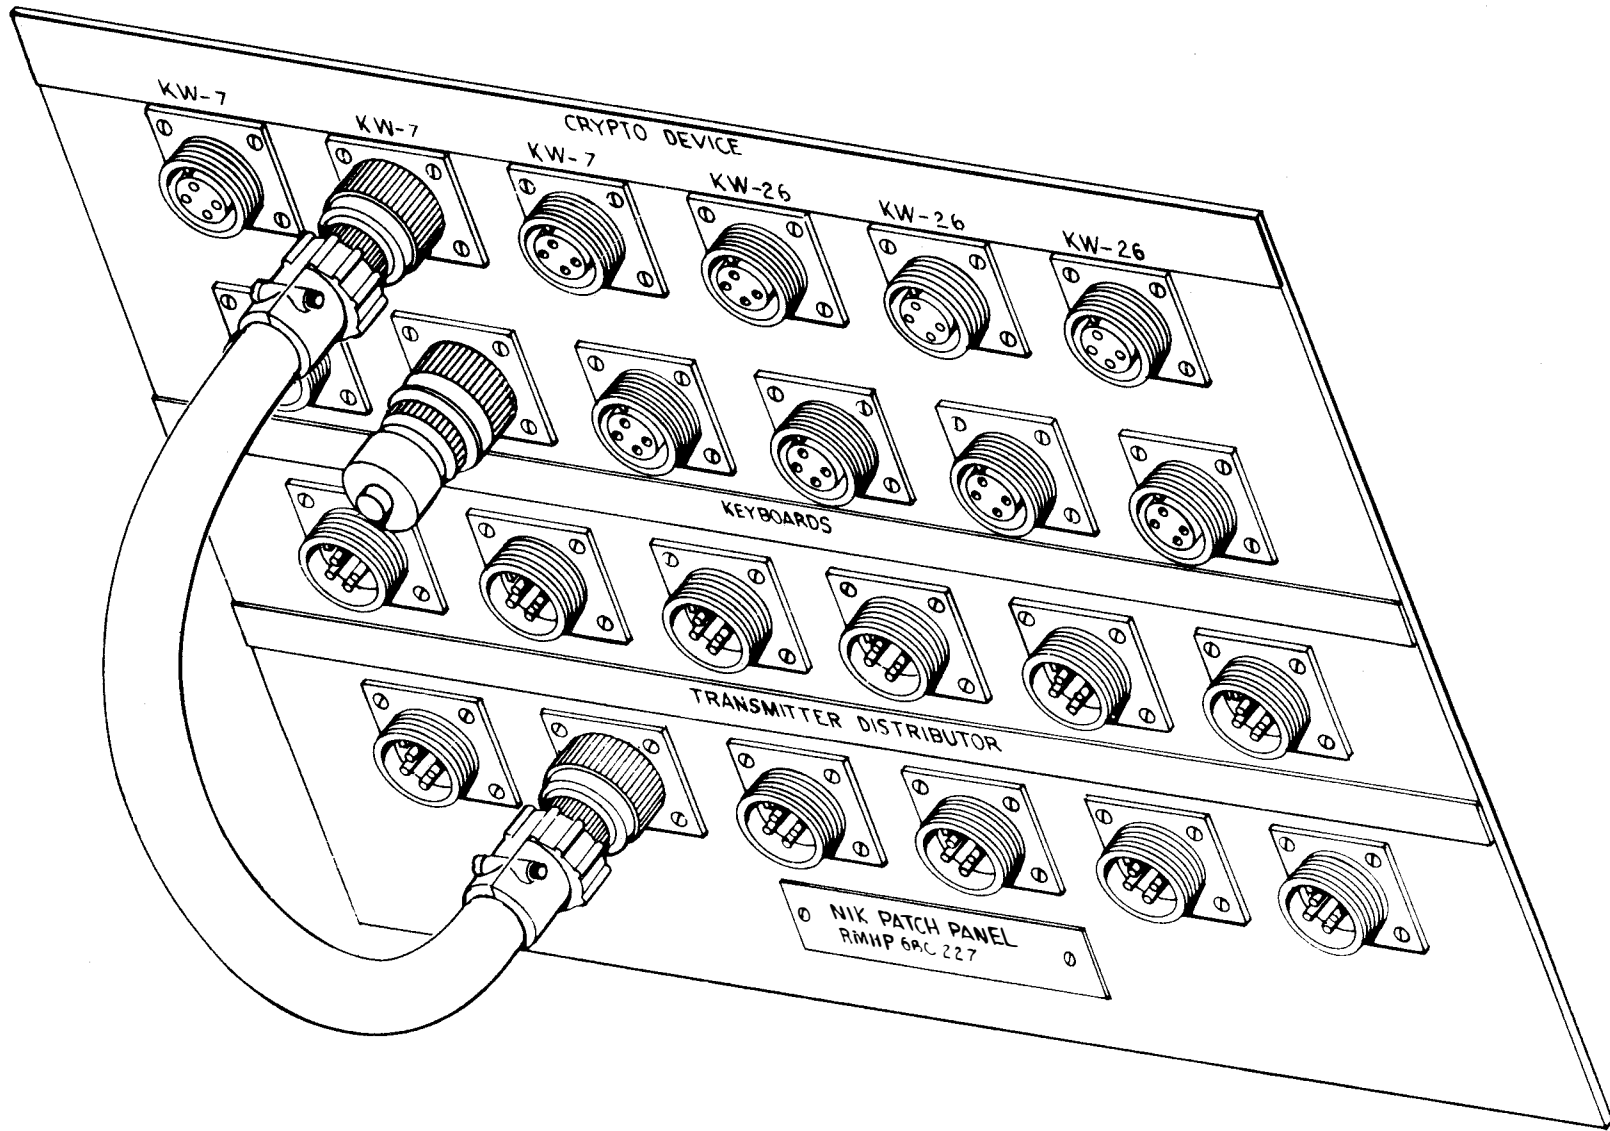

Figure 3.7 Single Patching For Transmitter-Distributor Using KW-7/TSEC
3. Figure 3.7 through 3.9 shows the patching required for transmitter distributor operation only. Dummy connectors are required.